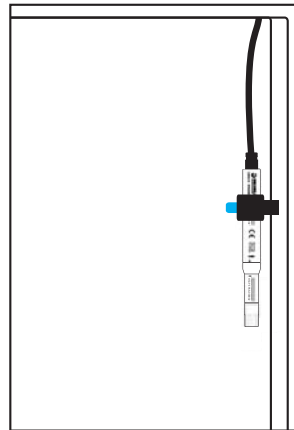

Figure 6 *Probe Wall Mounting*
The Probe Metal Gland (HS3-PMG) is shown in *Figure 6*. It is designed to be installed in the wall of the pressure vessel by the M25 x 1.5 thread on the rear (1). The O-ring (2) provides the pressure seal. The probe can then be installed, and the gland tightened until the shaft of the probe rotates with the turn of the nut.